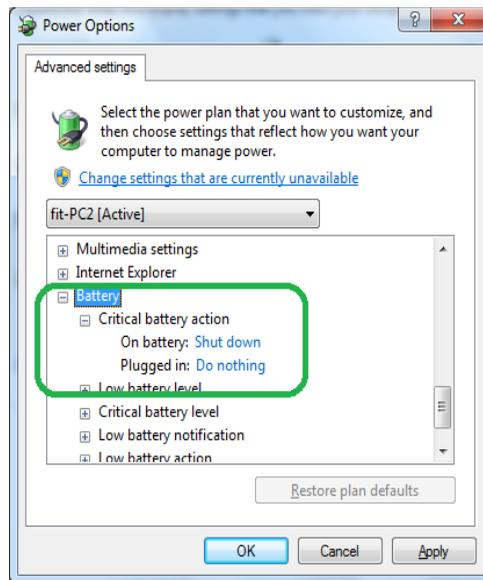

FIGURE 3-7 Critical Battery Action Settings
Step 5 On the **Advanced Settings** tab, expand **Battery** and **Critical battery action**. For the **On battery** entry, specify **Shut down** if not already selected; for the **Plugged in** entry, specify **Do nothing** if already not selected. The settings are shown in Figure 3-7.